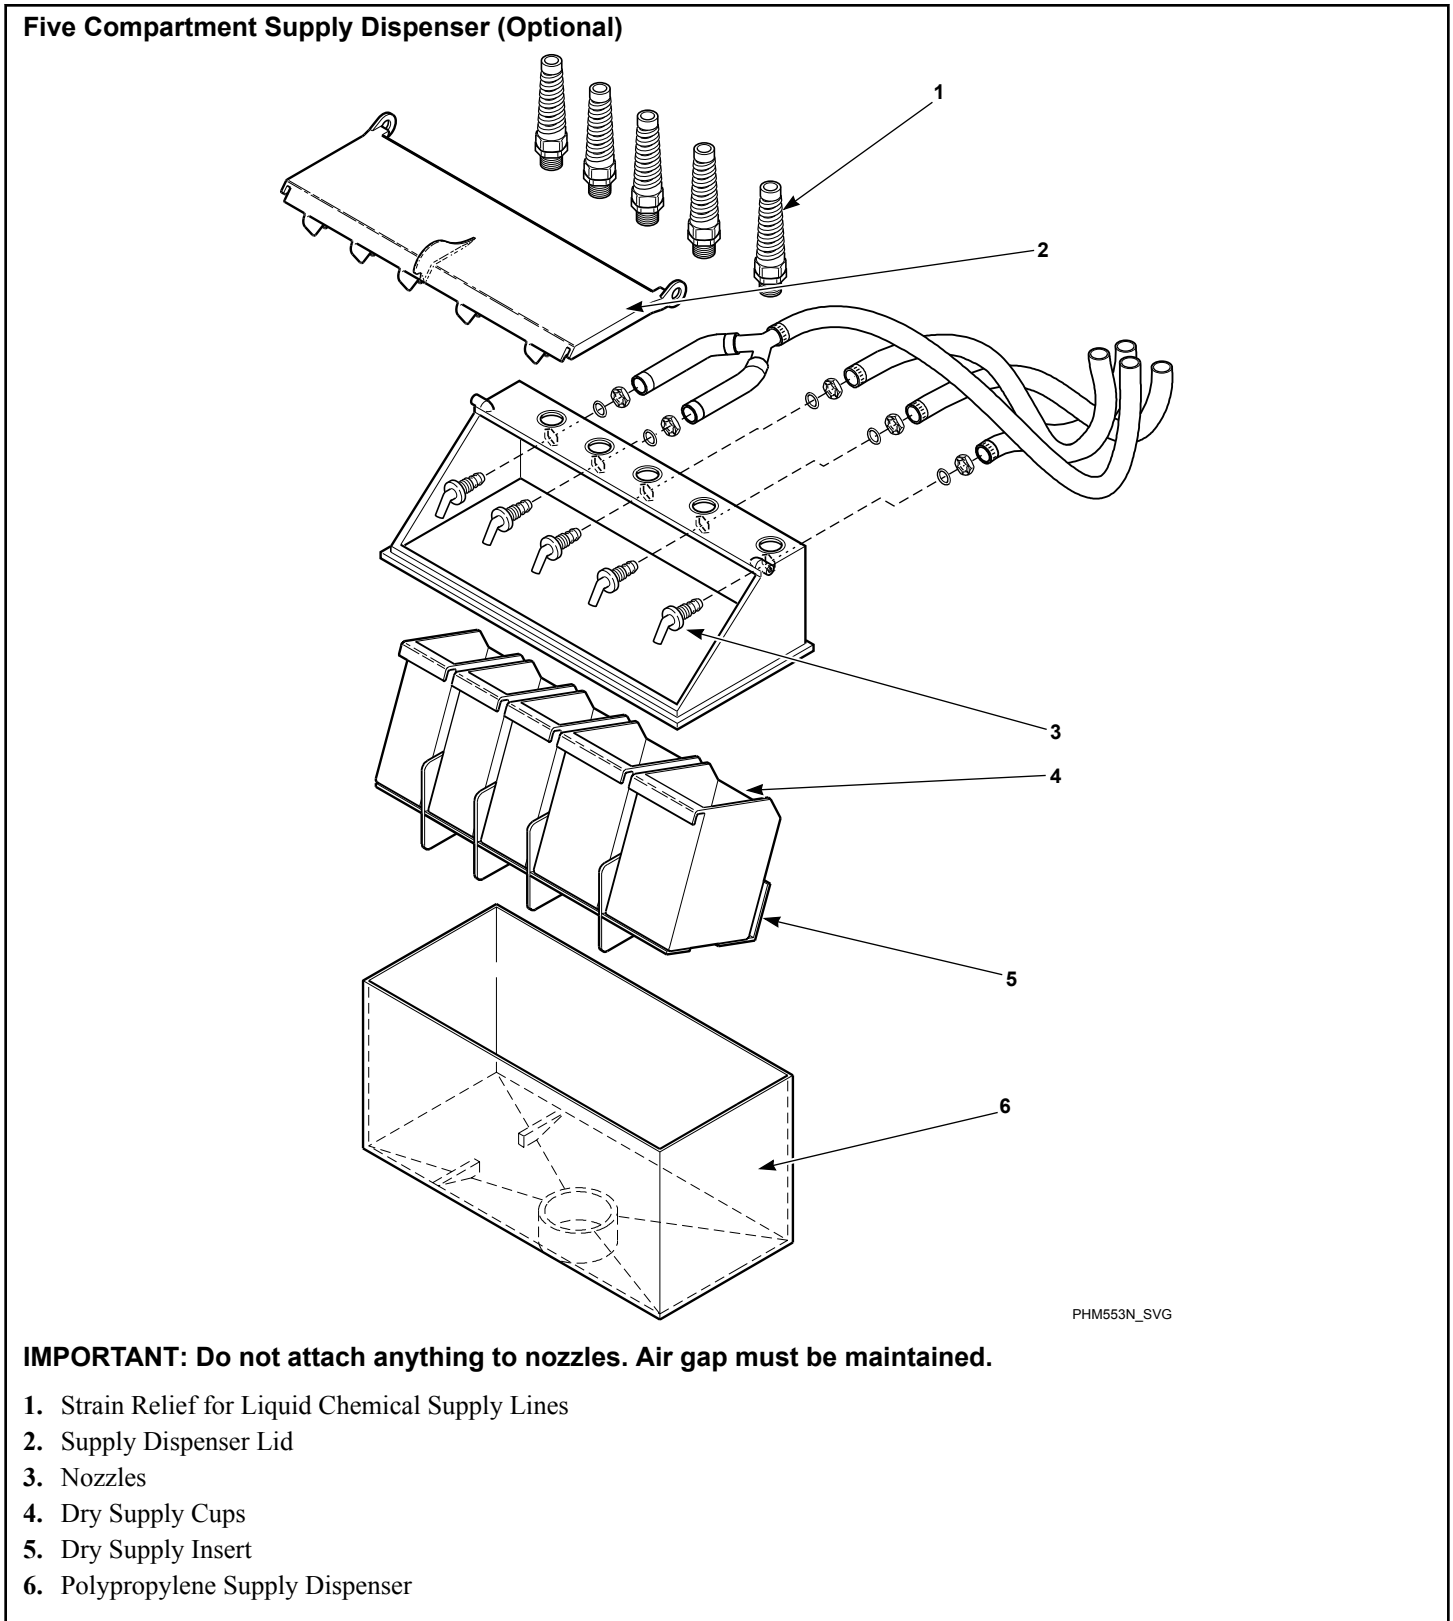

Figure 35
**IMPORTANT:** Undiluted chemical dripping can damage the machine. All chemical injection supply dispenser pumps and dispenser tubing should be mounted below the washer's injection point. Loops do not prevent drips if these instructions are not followed. *Figure 34* shows a typical Chemical Injection Supply System. *Figure 35* shows a typical Five Compartment Supply System.
1. Remove knockout from supply dispenser. Refer to *Figure 35* . Plugs are assembled inside the tubing ring.